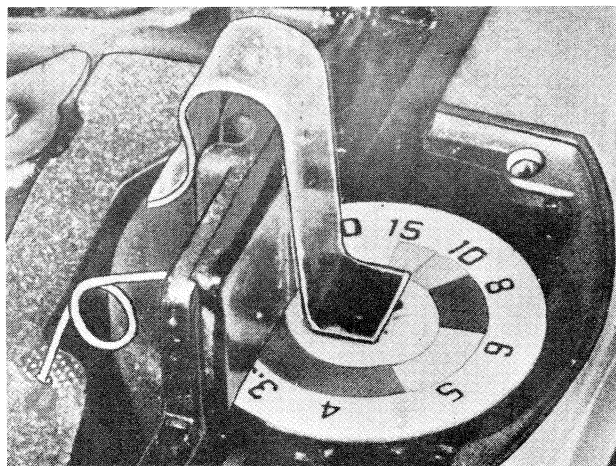

Figure 17. Focusing Dial Retaining Clip
d. Hold the sector gear teeth in alignment with a thin blade screwdriver and assemble the dial pinion (6, figure 5). Use the focusing dial retaining clip (11, figure 1 and figure 17) to keep the pinion in mesh with the sector gears.
e. Focusing dial travel, controlled by the sector gear movement, is checked and adjusted with a cutout dial (13, figure 1) and either the segment pin adjusting tool (8) or the pin driver (14). Position the cutout dial over the pinion so that the infinity mark ( $\infty$ ) lines up with the casting index. Press the dial on the pinion and use the focusing dial retaining clip (figure 17) to keep the pinion in mesh with the sector gears. Move the focusing arm to rotate the cutout dial to the "3" feet mark. If the "3" feet does not center on the casting index, it will be necessary to bend the focusing arm segment pin.